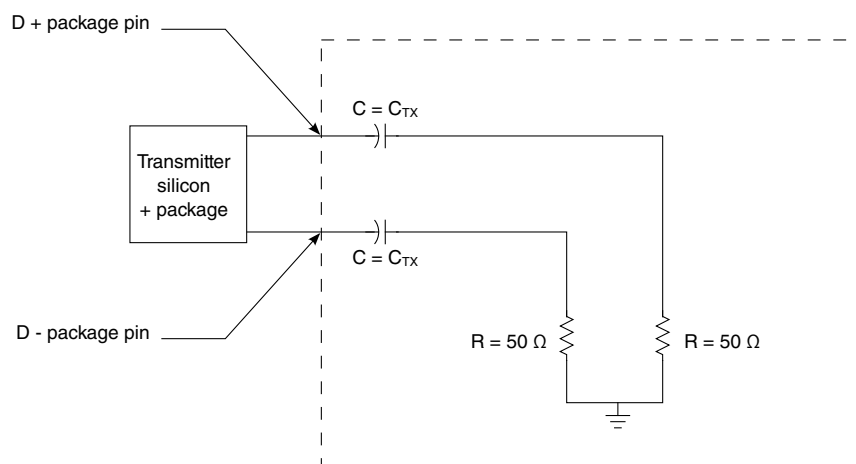

Figure 80. Test and measurement load
- Specified at the measurement point into a timing and voltage test load as shown in Figure 80 and measured over any 250 consecutive transmitter UIs.
Notes: 1. Each UI is 200 ps $\pm$ 300 ppm. UI does not account for spread-spectrum clock dictated variations. 2. Specified at the measurement point into a timing and voltage test load as shown in Figure 80 and measured over any 250 consecutive transmitter UIs. 3. The maximum transmitter jitter can be derived as: $T_{TX-MAX-JITTER} = 1 - T_{TX-EYE} = 0.25$ UI. 4. Reference input clock RMS jitter (< 1.5 MHz) at pin < 1ps. 5. The chip's SerDes transmitter does not have C_{TX} built-in. An external AC coupling capacitor of 100 nF is required. 6. All transmitters must be AC coupled. The AC coupling is required either within the media or within the transmitting component itself.
Notes: - Each UI is 400 ps $\pm$ 300 ppm. UI does not account for spread-spectrum clock dictated variations. - The maximum interconnect media and transmitter jitter that can be tolerated by the receiver can be derived as $T_{RX-MAX-JITTER} = 1 - T_{RX-EYE} = 0.6$ UI. - Specified at the measurement point and measured over any 250 consecutive UIs. The test load in Figure 80 must be used as the receiver device when taking measurements. If the clocks to the receiver and transmitter are not derived from the same reference clock, the transmitter UI recovered from 3500 consecutive UI must be used as a reference for the eye diagram. - A $T_{RX-EYE} = 0.40$ UI provides for a total sum of 0.60 UI deterministic and random jitter budget for the transmitter and interconnect collected any 250 consecutive UIs. The $T_{RX-EYE-MEDIAN-to-MAX-JITTER}$ specification ensures a jitter distribution in which the median and the maximum deviation from the median is less than half of the total. UI jitter budget collected over any 250 consecutive transmitter UIs. It must be noted that the median is not the same as the mean. The jitter median describes the point in time where the number of jitter points on either side is approximately equal as opposed to the averaged time value. If the clocks to the receiver and transmitter are not derived from the same reference clock, the transmitter UI recovered from 3500 consecutive UI must be used as the reference for the eye diagram. - It is recommended that the recovered transmitter UI is calculated using all edges in the 3500 consecutive UI interval with a fit algorithm using a minimization merit function. Least squares and median deviation fits have worked well with experimental and simulated data. - Jitter is defined as the measurement variation of the crossing points ($V_{RX-DIFFp-p} = 0$ V) in relation to a recovered transmitter UI. A recovered transmitter UI is calculated over 3,500 consecutive unit intervals of sample data. Jitter is measured using all edges of the 250 consecutive UI in the center of the 3,500 UI used for calculating the transmitter UI.